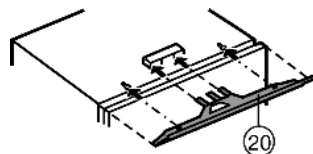

Fig. 10
- ▶ Fit the equaliser trim *Fig. 10 (20)* concentrically onto the appliance: Slide it into the recess and engage it in the keyholes.